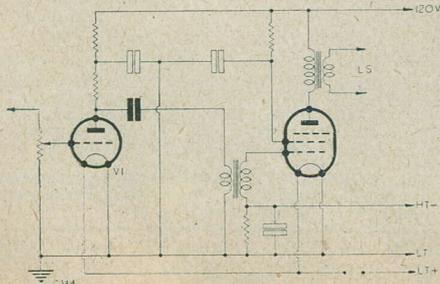

Fig. 1.
**D**ESIGNERS of battery receivers and amplifiers have always to bear in mind that, to keep running costs at a reasonable level, the utmost gain must be obtained from a relatively small number of valves. This probably applies more to the AF portion of the receiver than to the pre-detector circuits, and for this reason the output valve is usually a pentode or tetrode. Furthermore, coupling between output valve and the preceding stage is quite often by intervalve transformer. A typical circuit is shown at Fig. 1, where the valve V1, although shown as an ordinary AF amplifier, will quite probably be a grid-leak detector. In fact, this will almost certainly be the case if the receiver is of the "straight" variety.
Allowing that the full gain of the Fig. 1 amplifier will possibly be required in certain circumstances, for the greater part of the time—such as, when listening to the local station—nothing like the full AF gain will be needed. Therefore, as, in this latter case, there is gain to spare, it would be advantageous if some of the surplus could be utilised to improve the characteristics of the amplifier, at the same time arranging things so that these characteristics may be changed simply by turning a knob.